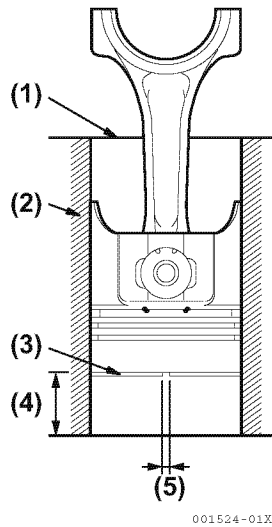

Figure 5-91
- Push the piston ring into a cylinder and measure the piston ring gap with a feeler gauge. Push the ring to about 30 mm (1.2 in.) from the bottom of the cylinder skirt (**Figure 5-91**).